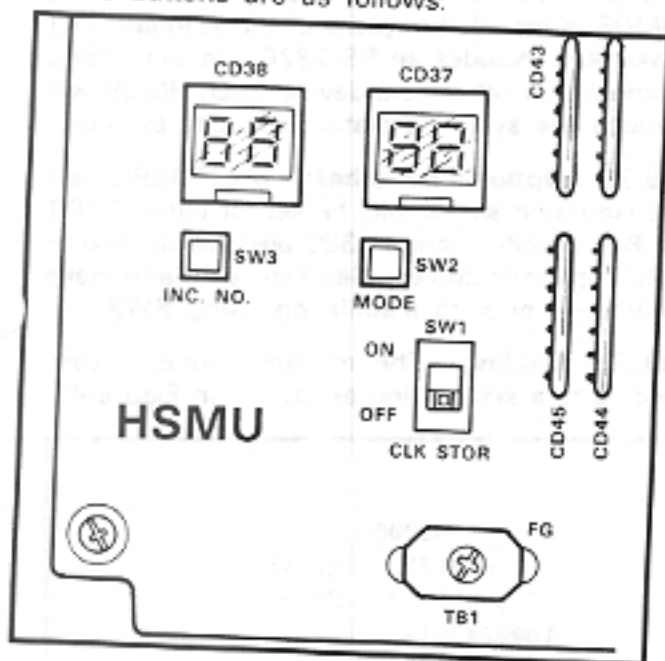

FIGURE 37—HSMB BUTTONS
09.65 Clock/Calendar Information: One of the functions of the HSMB is to provide a calendar and clock for showing time, date and duration of recorded calls. This clock and calendar must be set when the system is first placed into service. The HSMB automatically adjusts for 30- and 28-day months and leap year. It is equipped with three buttons and two LED displays (Figure 37). Looking from top to bottom; the functions of the buttons are as follows: